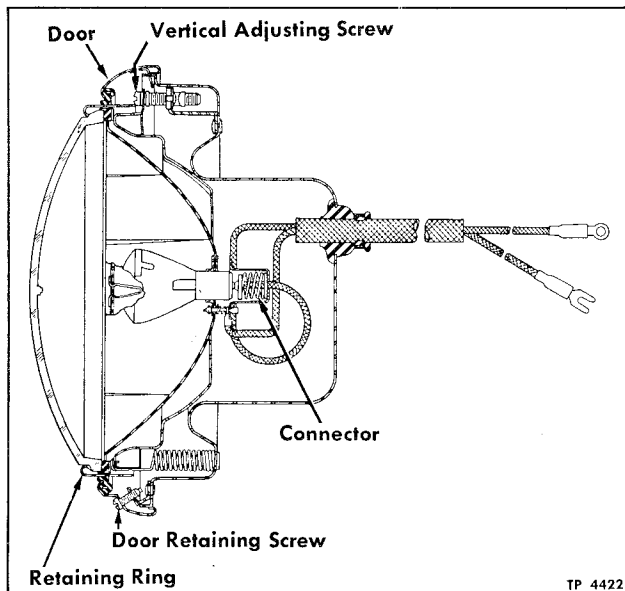

Figure 33—Sectional View of Fog Light
Fog lights (fig. 33) are mounted at lower front corners of coach directly below headlights and behind outer ends of front bumper. Openings are provided in bumper at fog lights. A special bulb with a metal fog cap to prevent glare from direct rays, and an amber lens are the identifying characteristics of this type of light.
Fog Light Bulb Replacement (Fig. 33)
2. Remove fog light door retaining screw, then remove door (fig. 33).